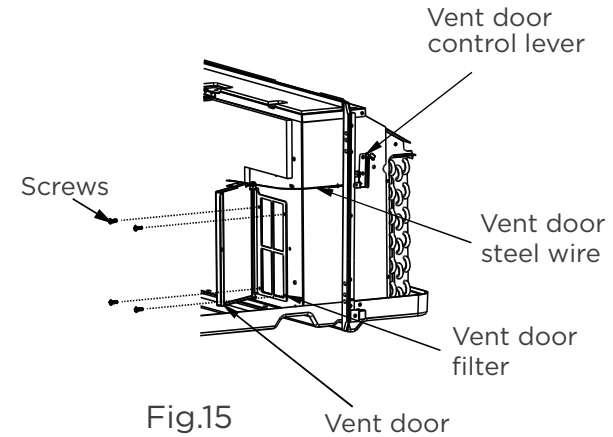

Fig.15
- Rotate the vent control lever to open the vent door. (See. Fig.15)
- Remove four screws from the vent door filter. (See.Fig.15)
- First pull out the vent door steel wire from the hole of the vent door, then take out the vent door and filter. (See.Fig.15)